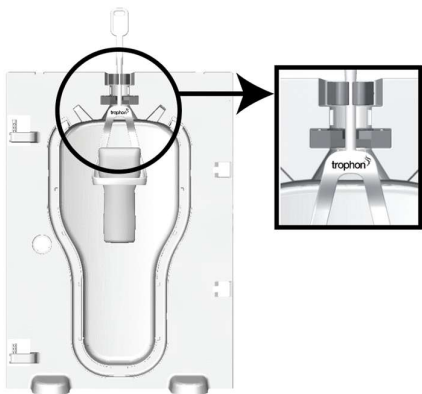
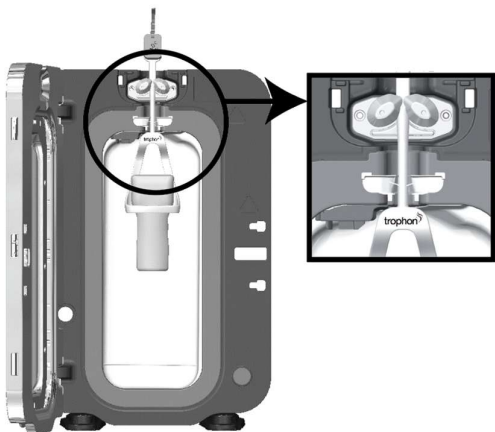

Figure 4
Figure 5
- **WUPH-A** The trophon Wireless Ultrasound Probe Holder-A (WUPH-A) holds a compatible wireless ultrasound probe in the trophon chamber. It is suitable for use with both trophon EPR, trophon2 and trophon3 devices (see Figure 4 and Figure 5 respectively).